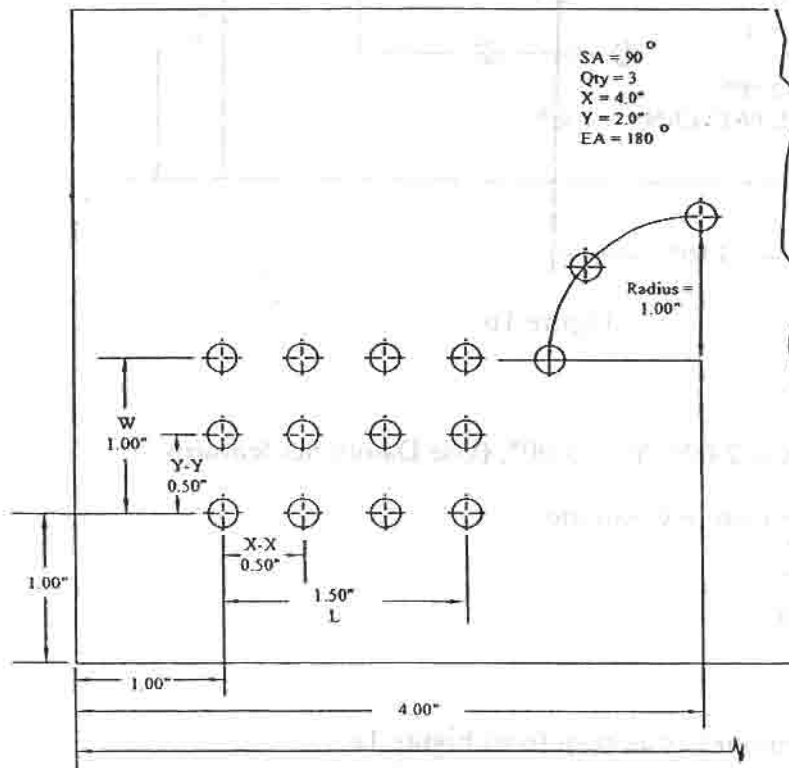

Figure 1a
Using the above parameters as seen from Figure 1a
4. Recall Linear Hole Pattern on Figure 1a from the Electronic Notepad (Use Linear Hole Pattern Recall).
5. Recall Bolt Hole Pattern on Figure 1a from Electronic Notepad.